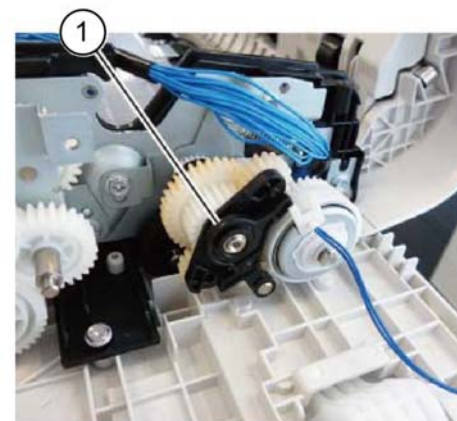

Figure 1 Stopper link removal
8. Remove the stopper link, Figure 1.